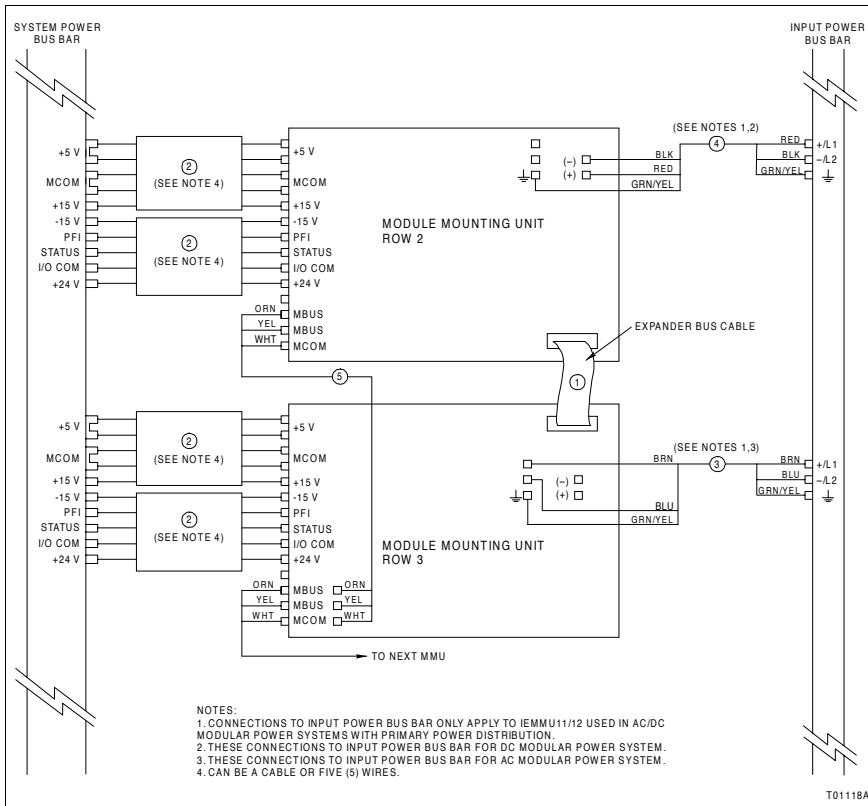

Figure 3-2. Module Mounting Unit Connections (Table 3-2)
Regulated power supply voltages (+5 VDC, +15 VDC, -15 VDC, and +24 VDC), PFI, and STATUS signals are distributed to the system through the system power bus bar located inside the cabinet. Power is transferred to the mounting unit from the bus bar through cables. Refer to Figure 3-2 for proper cable usage.
Input AC and DC power is supplied to the IEMMU11 and IEMMU12 units through the input power bus bar located inside the cabinet. Power is transferred to the mounting unit from the bus bar through cables. Refer to Figure 3-2 for proper cable usage.
NOTE: I/O expander bus cables are shown in Figure 3-2. If mixing IEMMU11/12/21/22 and IEMMU01/02 units, a transition board is required. The board will not work unless it is used in the left-hand socket of the backplane connector (P58 or P60). The IEMMU01/02 I/O expander bus cable connects to the transition board (refer to Table 5-1 for part number). Additional information is given in **Transition Board Installation** in Section 3.
NOTE: The cable inserter is not needed if using individual wires for connecting power, PFI, and module status (Fig. 3-2).
Table 3-2 and Figure 3-2 provide connection information for systems using an AC modular power system, a DC modular power system, and Modular Power System II.
Table 3-2. MMU Cables (Fig. 3-2)
3. Use expander bus interconnect cable (Fig. 3-2). Install the cable onto the transition board by positioning the two locating pins on the cable into the holes on the transition board.